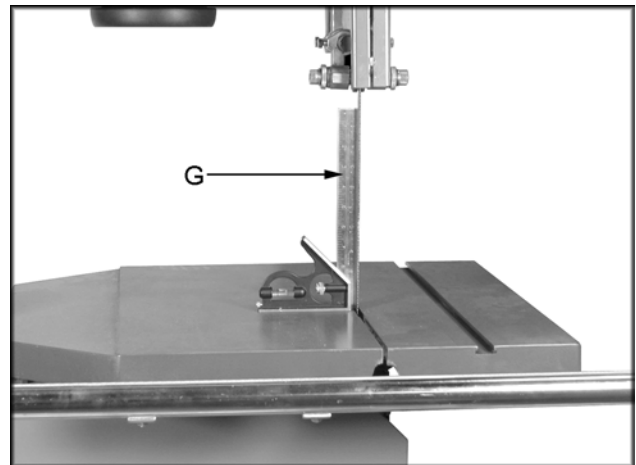

Figure 8
3. Place a square (G, Figure 8) on the table against the blade to see if the table is 90 degrees to the blade.